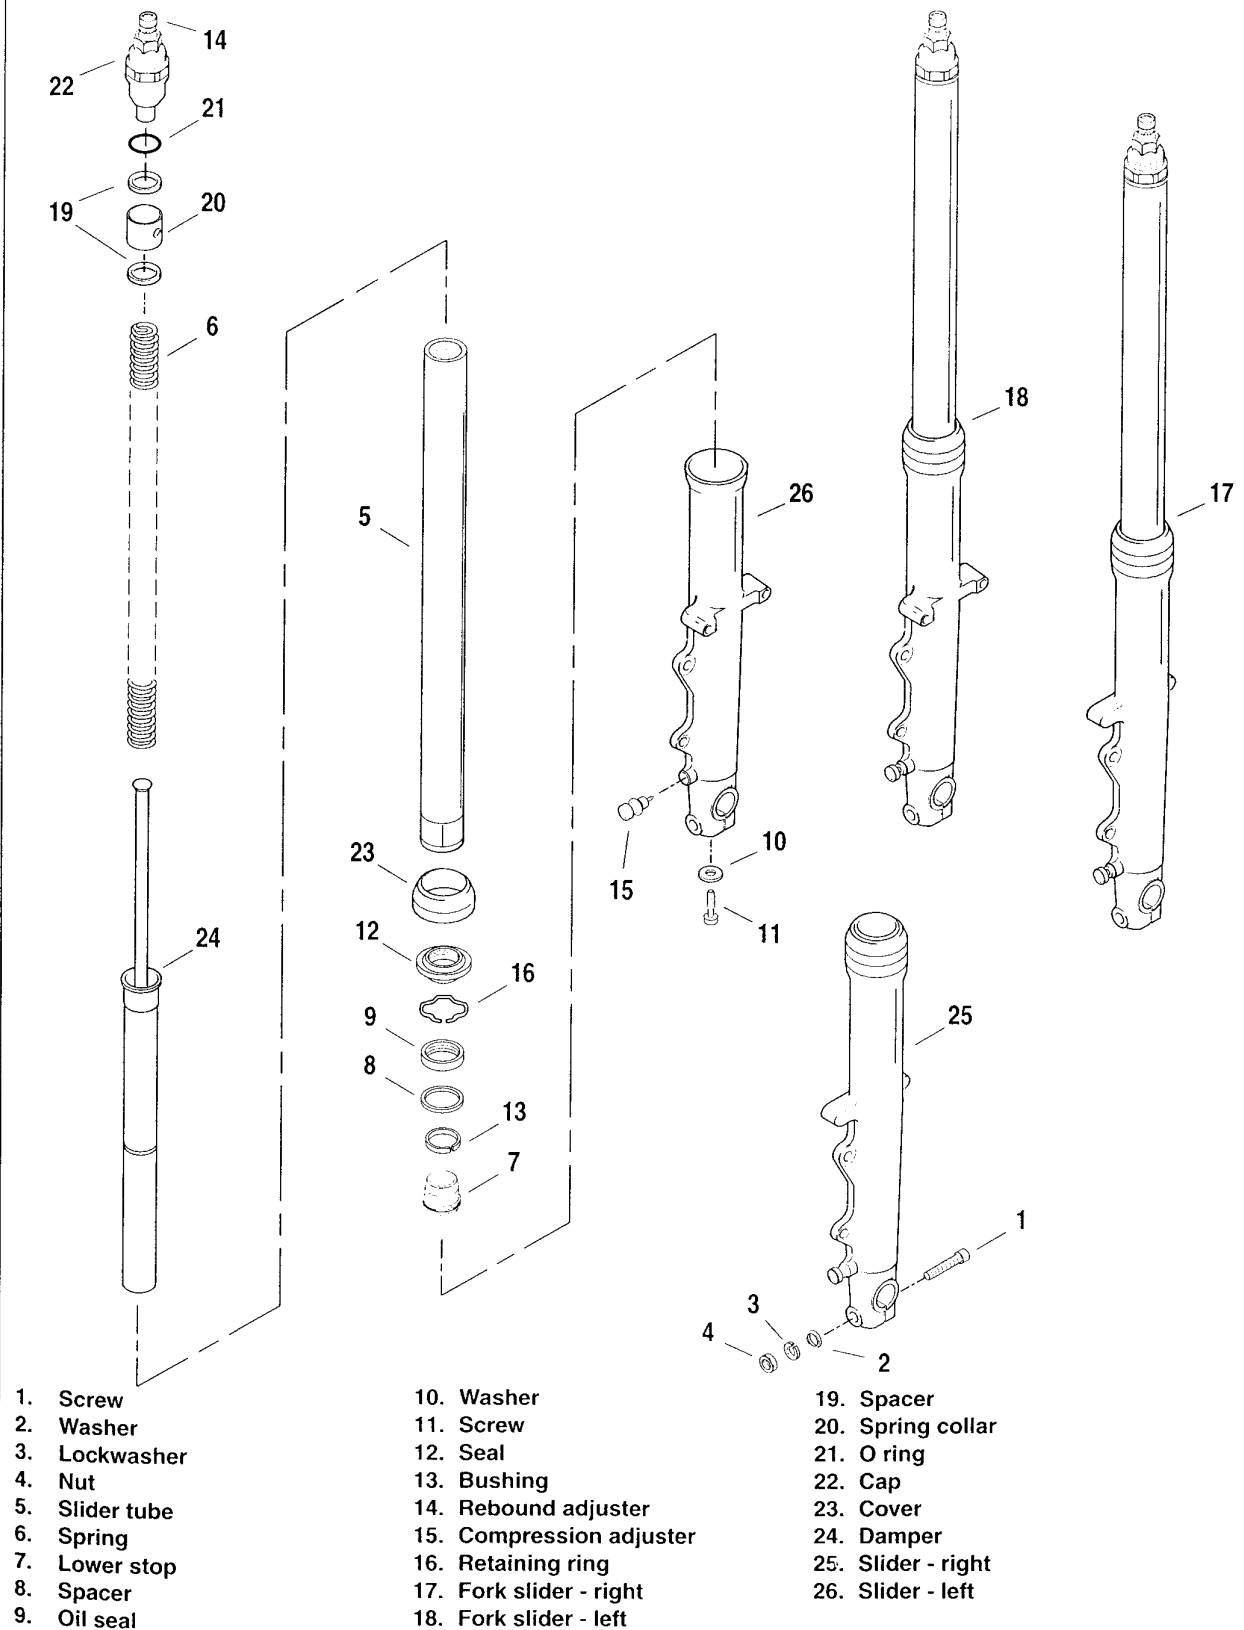

Figure 2-91. Front Fork: FXDX & FXDXT
17. See Figure 2-91. Carefully clean and install spring (6), spring collar (20), and spacers (19).
1. See Figure 2-91. Insert both fork side assemblies up through the fork stem and bracket and upper bracket.